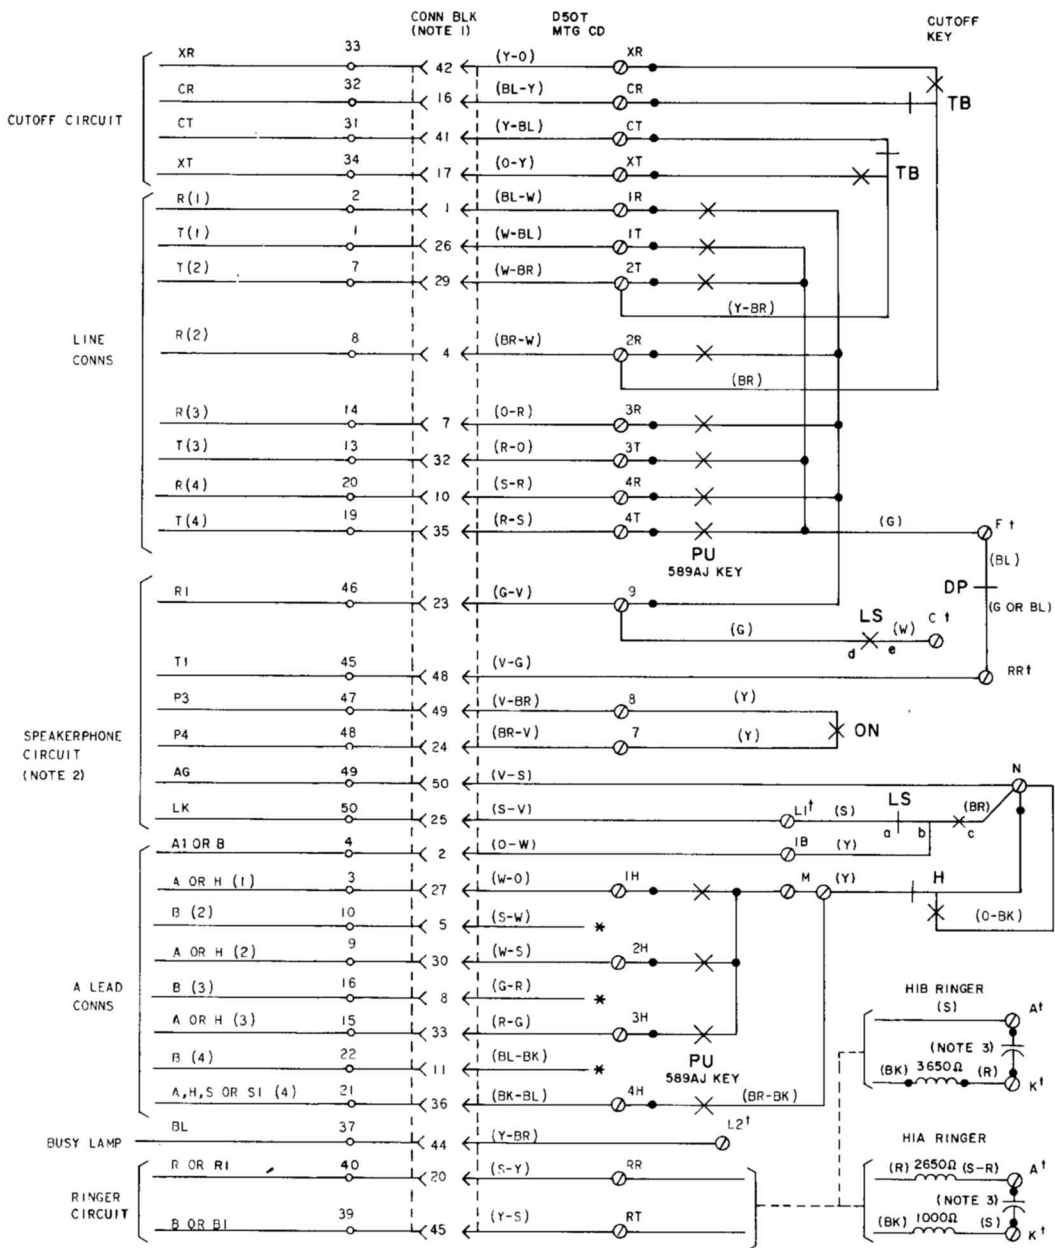

Fig. 1—565LK (MD) or 565LKM [(MD) Manufactured Prior to July 20, 1979] Telephone Set, Connections
1.01 This section contains information for the 565LK (MD), 565LKM (MD), and 565LKMS telephone sets (Fig. 1 and 2).